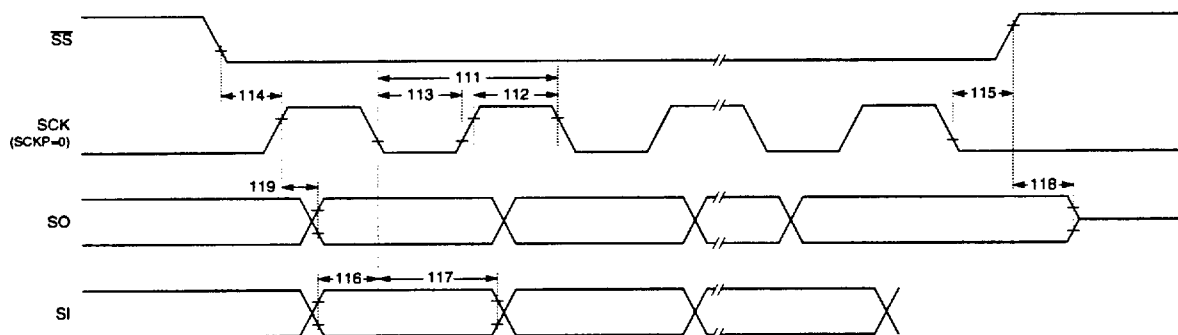

Figure 24. Serial Host Interface Timing
1. SCK polarity is controlled by field SCKP of register SPIMODE. The polarity shown in Figure 24 corresponds to SCKP=0.